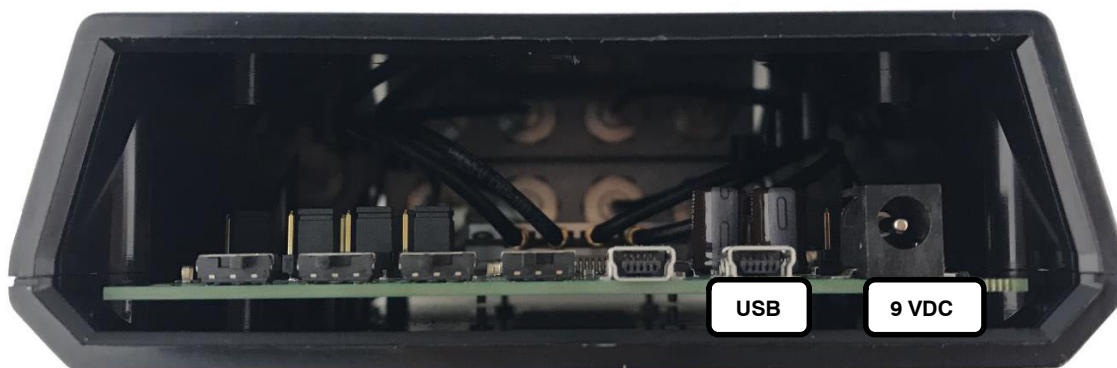

Figure 2. ThingMagic M6e Reader Port Setup
- Plug Mini-USB cable into the USB port closest to the DC jack as shown in Figure 2 and connect the other end into the PC that will be used to run the software